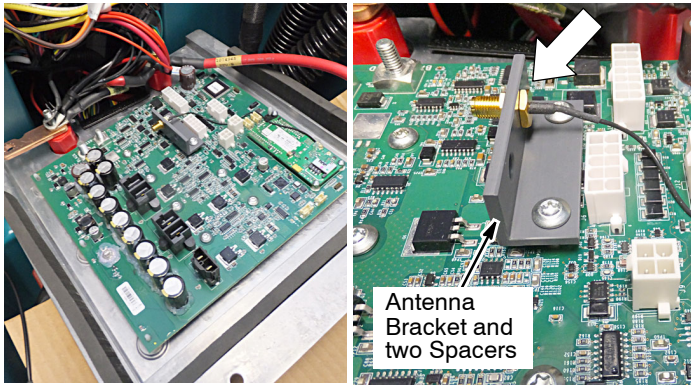

Fig. 5
- Mount the new circuit board to the heat-sink panel using existing hardware (Figure 5). Install the antenna bracket with two spacers as shown. Connect the antenna wire from the new circuit board to the antenna bracket as shown.